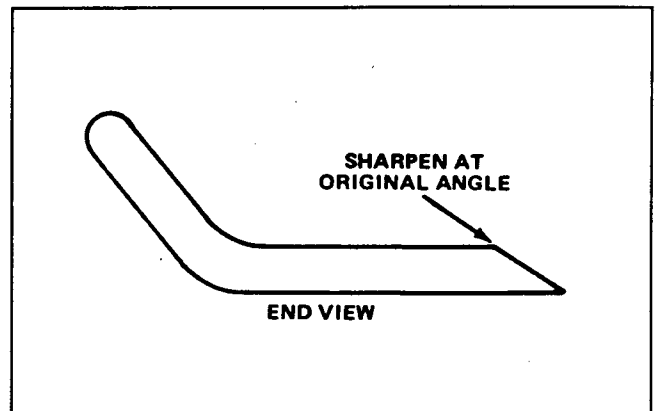

Figure 19
3. Examine cutting edges of all blades. Sharpen cutting edges that are dull or nicked. To assure sharpness, sharpen only the top side of the cutting edge while maintaining the original cutting angle (Fig. 19). If the same amount of metal is removed from both cutting edges, the blade will remain balanced.